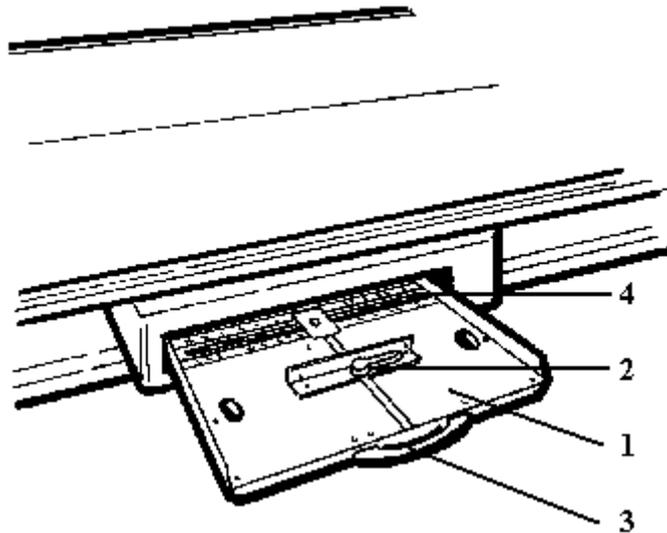

Figure 2-1: Cassette Tray
The controls of the Manual Cassette Tray KL are shown in Figure 2-1: Cassette Tray and their functions are briefly described on the following page.
The cassette tray KL (Figure 2-1, item 1) positions the film cassette in the Bucky.
Two cassette clamps (Figure 2-1, item 2) center the film cassette transversely within the cassette tray KL (Figure 2-1, item 1).
A film cassette may be inserted, when the cassette tray KL (Figure 2-1, item 1) is pulled out by its handle (Figure 2-1, item 3) from the Bucky to the forward stop.
The film cassette may be longitudinally centered within the cassette tray KL (Figure 2-1, item 1) with its transverse center line aligned with the notch in the cassette clamps (Figure 2-1, item 2) or by pushing the film cassette against the cassette positioner (Figure 2-1, item 4) positioned into the locking corresponding to the inserted film cassette.
- Pull out the cassette tray KL (Figure 2-1, item 1) by its handle (Figure 2-1, item 3) from the Bucky until it hits the forward stop.
- The cassette clamps (Figure 2-1, item 2) center the film cassette transversely within the cassette tray. Rotate its latch counterclockwise to unlock it.
- Open the cassette clamps (Figure 2-1, item 2) far enough to insert a film cassette of the desired size.
- Insert the film cassette with its transverse center line aligned with the notch in the cassette clamps (Figure 2-1, item 2) or push the film cassette against the cassette positioner (Figure 2-1, item 4) positioned into the locking corresponding to the inserted film cassette (13 cm, 18 cm, 24 cm, 30 cm, 35 cm, 40 cm, or 43 cm).
- Push the cassette clamps (Figure 2-1, item 2) against the film cassette, and rotate the latch into the locked position.
- Push the cassette tray KL (Figure 2-1, item 1) fully into the Bucky.